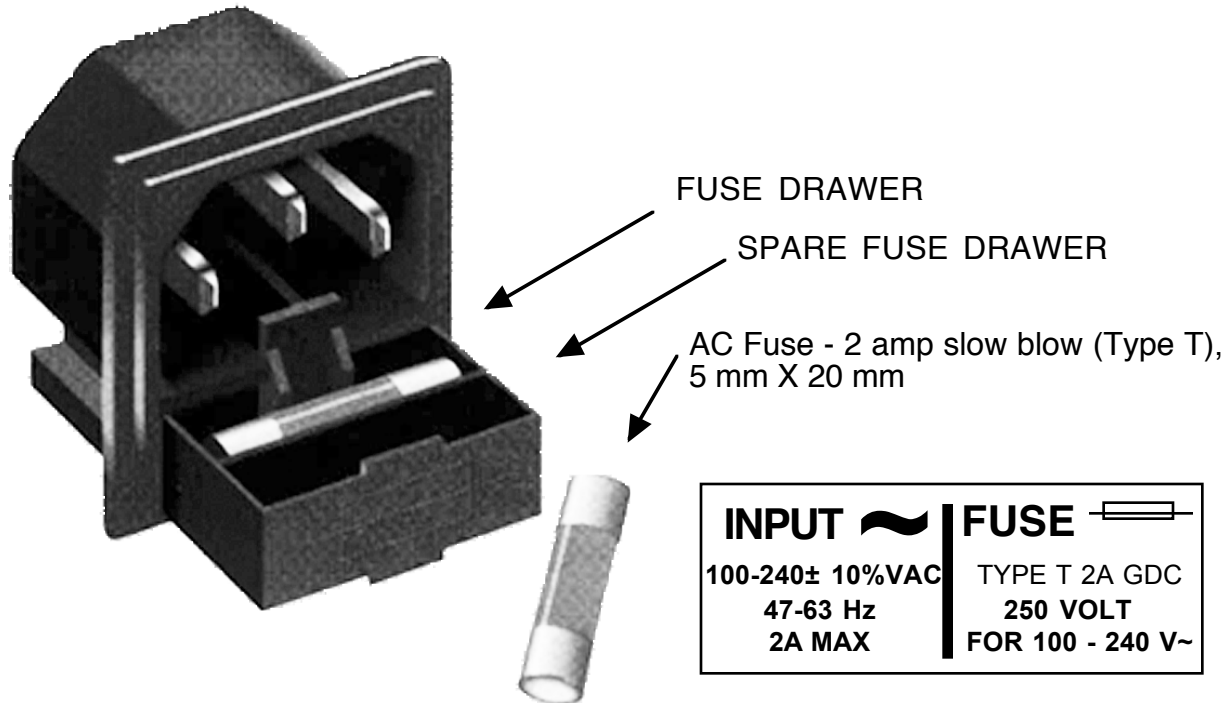

FIGURE 2.6 FUSE LOCATION AND SPARE FUSE
5.) **AC Fuse** - The fuse is a 5mm, 2 amp fast blo and is inserted in the far slot in the drawer below the AC input as shown in Figure 2.6. There is a spare fuse in the near slot. If a fuse continues to open, the power supply is most likely defective. Note that each power supply module within the chassis also has a fuse but failure of this fuse indicates the power supply may be defective.